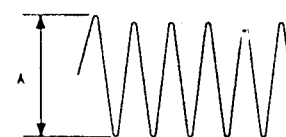

Figure 13
- 5) Adjust L151 until the amplitude A is maximum (See Fig. 13).